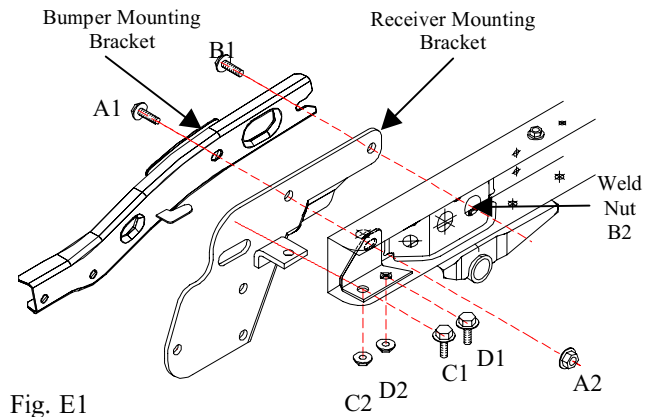

Fig. E1
-  1. Position driver's side receiver mounting bracket against the side of the vehicle frame. Align holes of bracket with holes in frame and frame reinforcement bracket. (Fig. E1)
-  2. Locate driver's side bumper mounting bracket on the outside of the receiver hitch-mounting bracket. (Fig. E1)
- 4. Hand start forward bumper bracket bolt (B1) into existing weld nut (B2) inside vehicle frame. (Fig.E1)